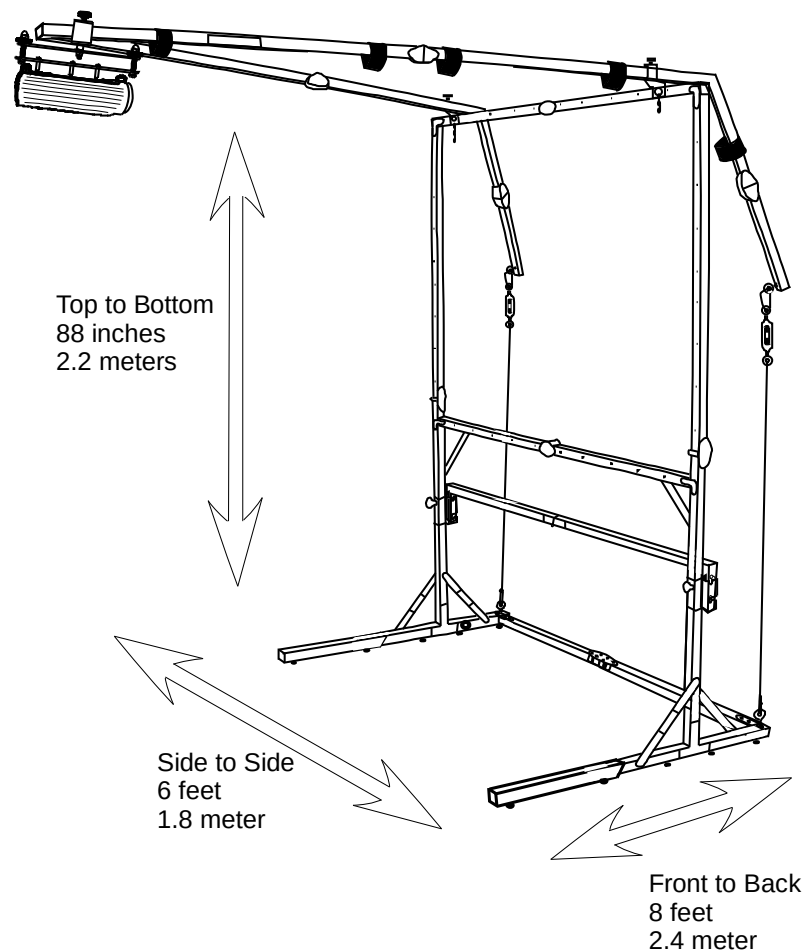

Figure 1. Site Requirements for Medium XGA Projection System.
- Level with minimum clearing of 6 feet (1.8 m) wide by 88 inches (2.2 m) high by 8 feet (2.4 m) deep for deployment and operation (see Figure 1).
3. Expand screen frame (1) to open position. Ensure frame hinges and corner support braces are securely latched as shown in Figure 1.